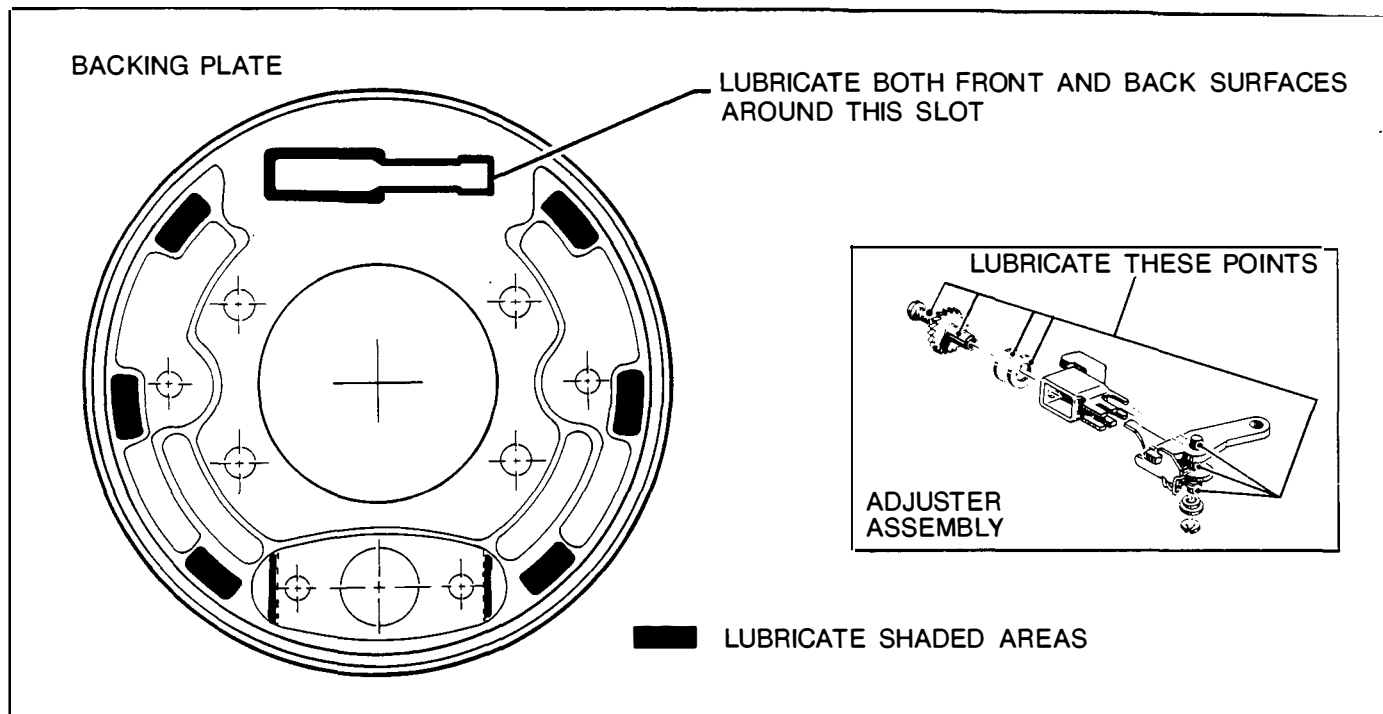

FIG. G-8 BRAKE LUBRICATION AREAS
**WARNING: WEAR PROTECTIVE GOGGLES AND MASK WHEN CLEANING BRAKE COMPONENTS. LUBRICATE AREAS INDICATED WITH WHITE LITHIUM GREASE. (FIG. G-8)**